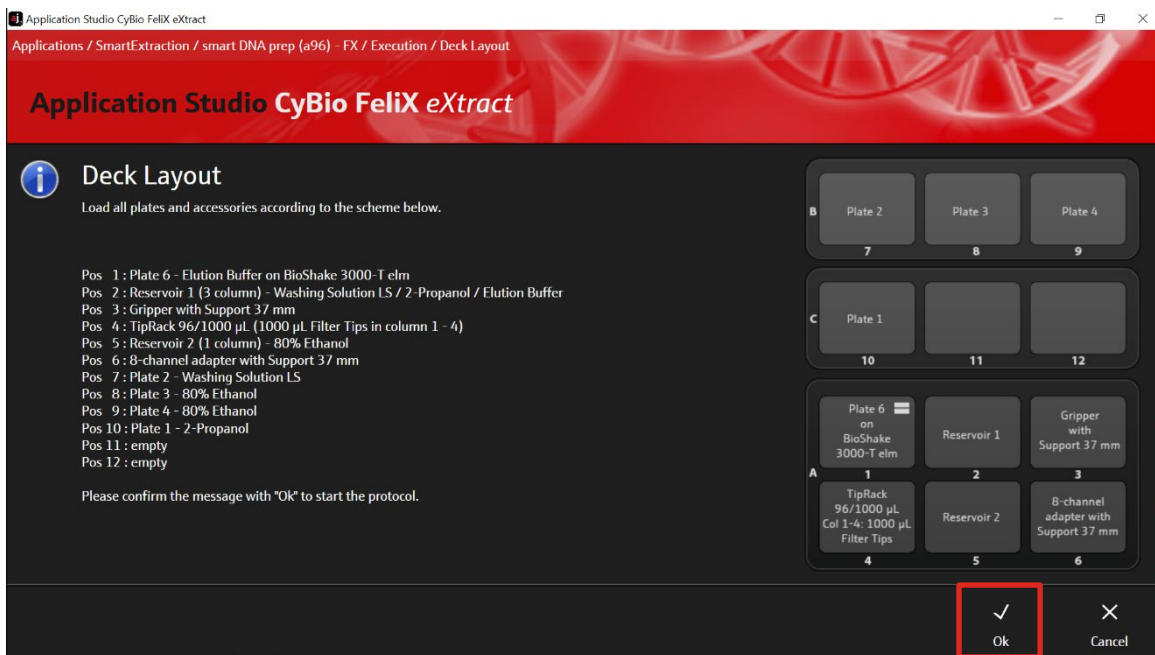

Figure 8: Deck layout for final hardware check for the prefilling.
17. Check the correct deck position of all plates, reservoirs and other hardware components against the list displayed in AppStudio FeliX *eXtract*) and confirm with "Ok" (→ see Figure 8).